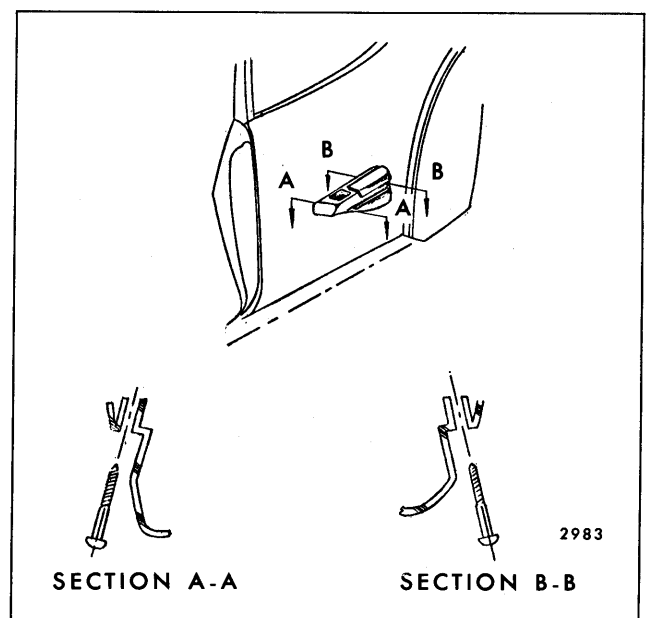

Fig. 14-16—Applied - Type Quarter Arm Rest
- A. Applied arm rests, which are retained by two screws inserted through the arm rest base into the quarter inner panel (Fig. 14-16).